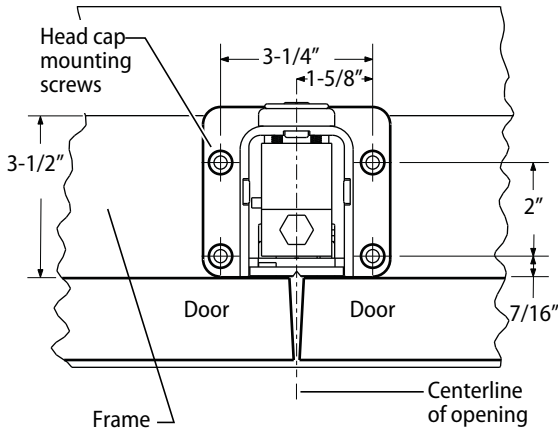

Figure 5 Installing the head cap (underside view)
- 1 Center the head cap on the frame between and flush with the closed doors. See Figure 5.